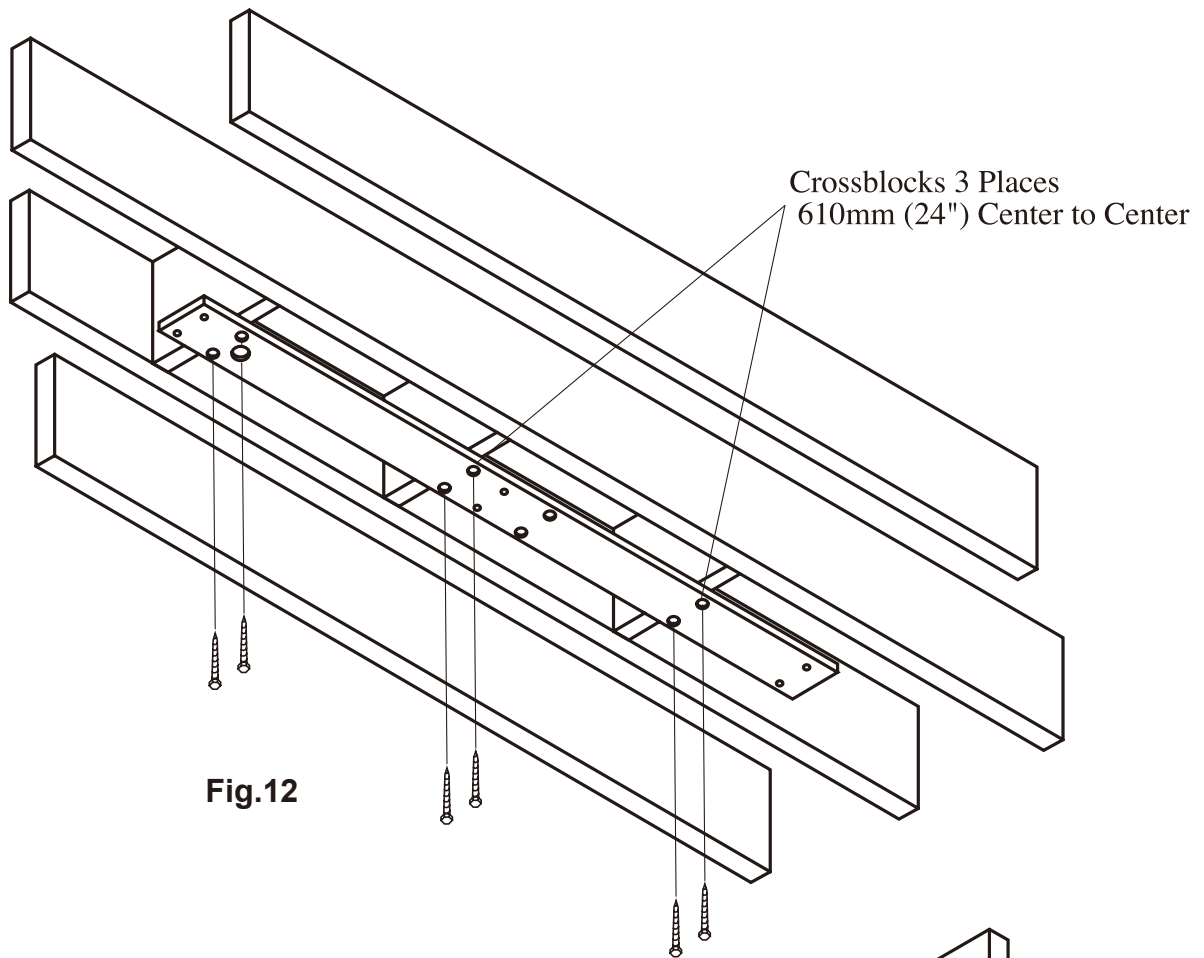

Fig.12
B) For conventional ceilings with joists parallel to the center line of the light, cross blocks must be installed in 3 places to allow mounting with at least 6 (M8 x 76 mm) lag screws. (See Fig.12)